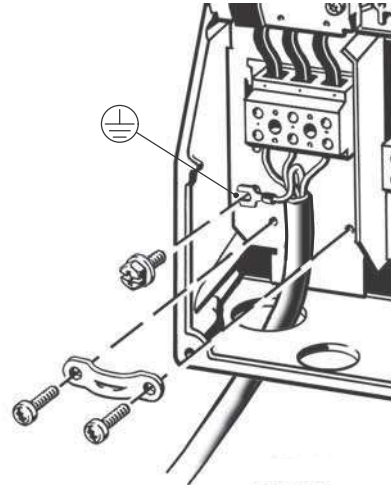

Fig. 23 Mains connection, B1 and B2
1. Connect the earth conductor to terminal 95 (PE). See fig. 23.